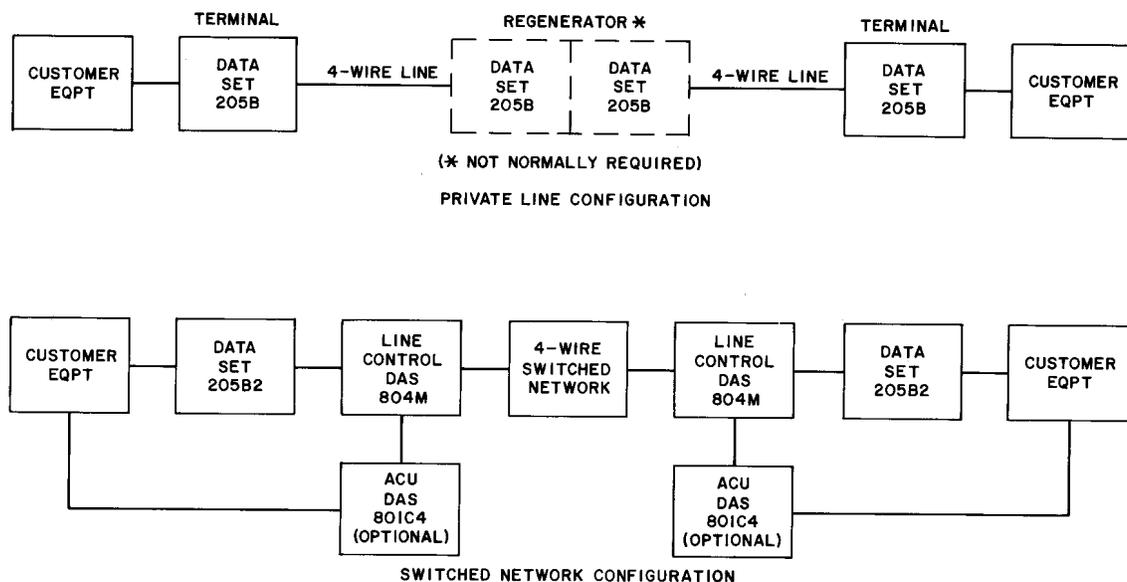

Fig. 1. — System Configurations
2.01 The Data Set 205B can be used in point-to-point private line or 4-wire switched network configurations (Fig. 1). More elaborate system configurations can be developed from these basic types.